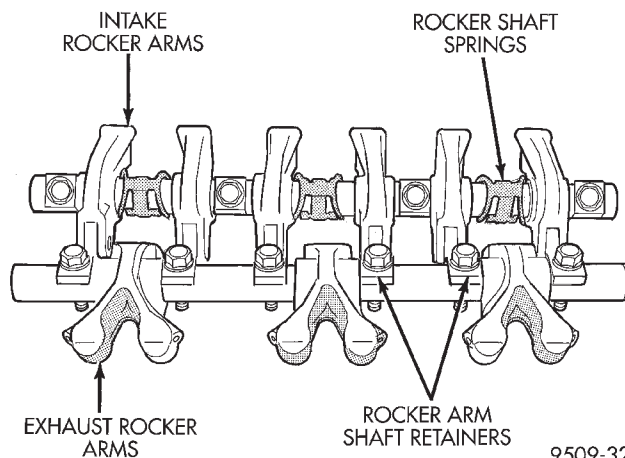

Fig. 36 Rocker Arm Shafts
(5) Mark rocker arm/hydraulic lash adjuster assemblies for reassembly in their original position. Remove rocker arm/hydraulic lash adjuster assembly. Lash adjusters are serviced as an assembly with the rocker arm (Fig. 36).
(1) Install rocker arm and shafts with the FLAT on the shafts facing the timing belt side of the right cylinder head (Fig. 37). For the left cylinder head, install rocker arm and shafts with the FLAT on the shafts facing the transmission side of the engine. Install the retainers and spring clips in their original positions on the exhaust and intake shafts (Fig. 36).